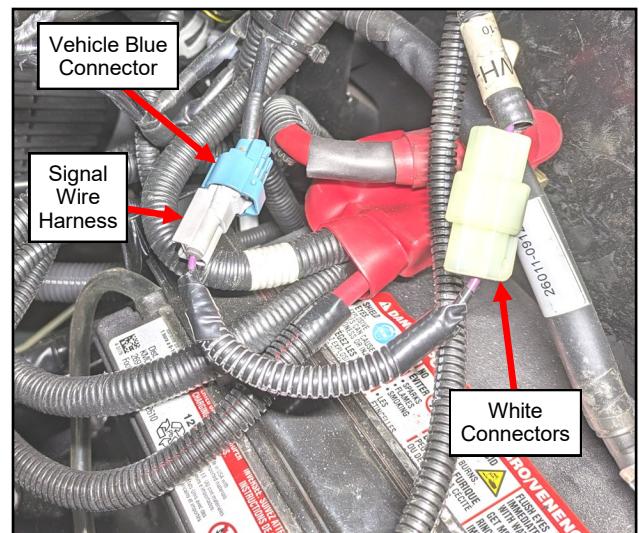

Fig. 4.10 (Connect Signal Wire Harness)
- 4.10 Connect the white connector of the Signal Wire Harness to the white connector of the Alternator Harness. Connect the gray connector on the Signal Wire Harness to the blue connector on the vehicle harness. See figure 4.10.